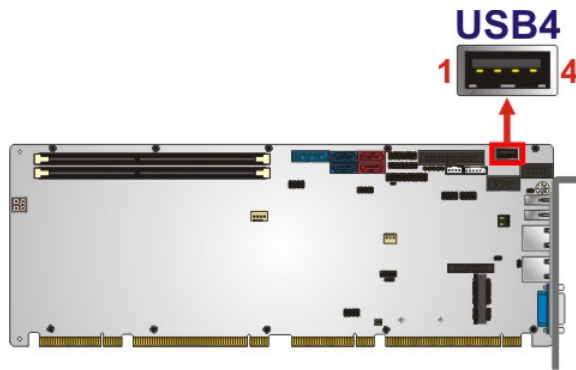

Figure 3-28: USB 2.0 Connector (Type A) Pinout Location
- CN Location:** See **Figure 3-28**